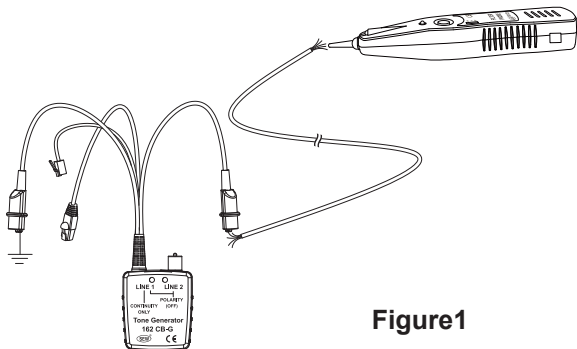

Figure1
Connect one test lead to a terminated wire and the other test lead to earth or equipment ground. (See figure 1)
a. Connect the test leads to the pair, or attach one lead to ground and one lead to either side of the line. (See figure 1)